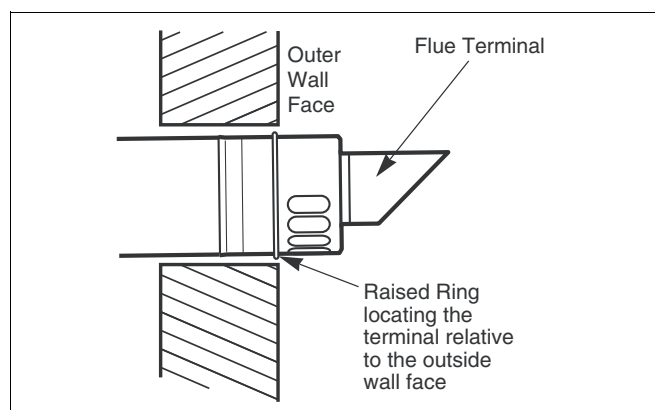

fig. 18 Flue terminal position
- Mark of the lengths shown onto the ducts and cut the length. The cuts must be square and free from burrs. Terminal assembly outer (air) duct - L-70 mm, inner (flue) duct - L-50 mm. The measurement is made from the ridge at the terminal indicating the outer face of the wall. Refer to figure 18. Extension air duct - L-70 mm, flue duct - L-50 mm. The measurement is from the formed end.